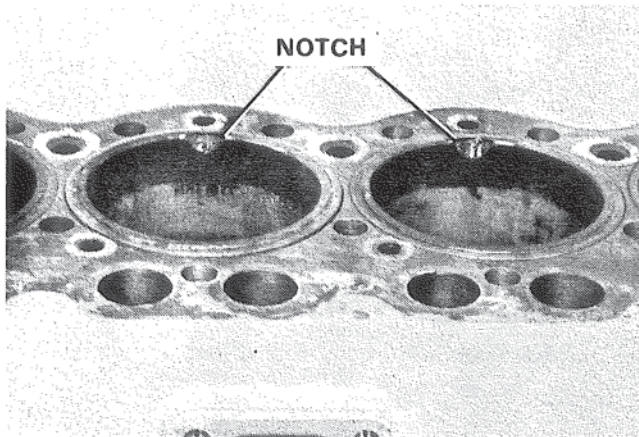

Figure 56. Liner Installation Marks.
- C. Line up notch in top of liner with left side of block, mark on opposite side with matching mark in top of block. Figure 56.